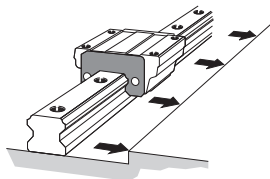

Fig. 7: Aligning the LM Rail with the Reference Surface
- (2) Gently place the LM rail onto the base, and temporarily secure the bolts so that the LM rail lightly contacts the mounting surface (align the line-marked side of the LM rail with the side reference-surface of the base). (Fig. 7)